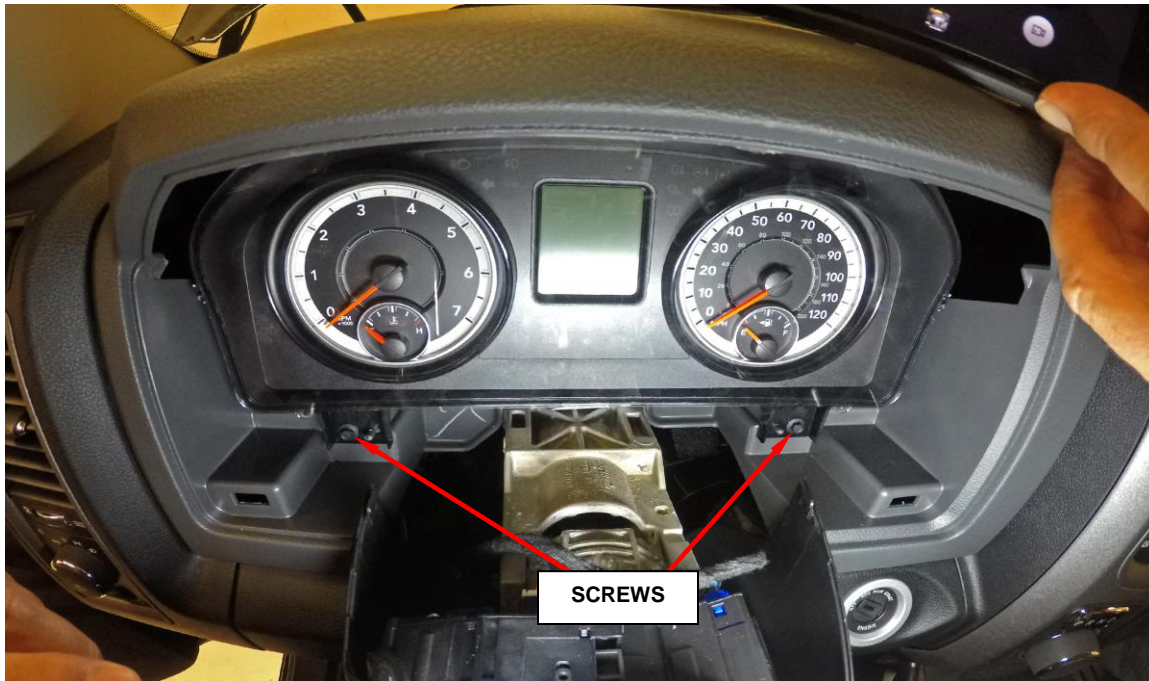

Figure 4 – Cluster Screws
6. Remove the two screws that secure the instrument cluster to the instrument panel (Figure 4).
10. Position the instrument cluster into the instrument panel (Figure 4).
11. Install and tighten the two screws that secure the instrument cluster to the instrument panel. Tighten the screws to 4 N·m (31 in. lbs.) (Figure 4).